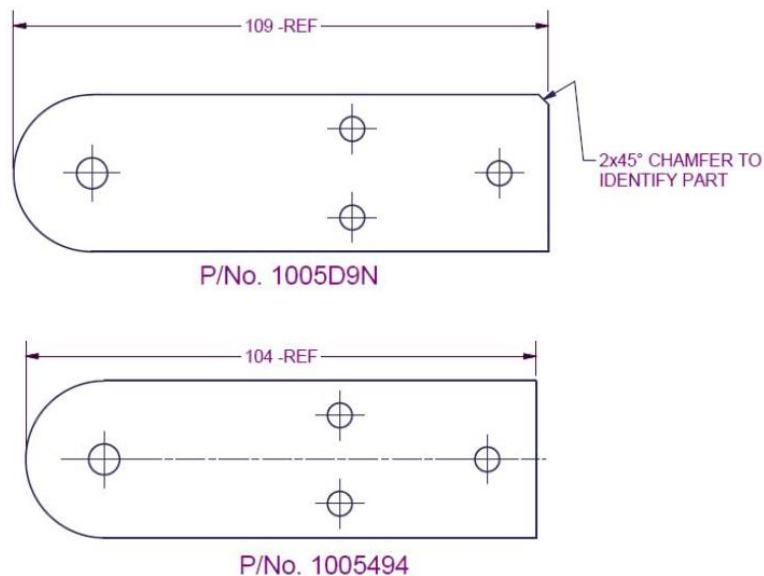

Figure 41 – Wing Lug Versions (all J-Series)
- Dry fit the replacement lugs to check for correct fit. When ordering replacement parts note Figure 41: 2 different model lugs have been used on Jabiru Aircraft; the correct length must be fitted or dihedral angle errors will occur.